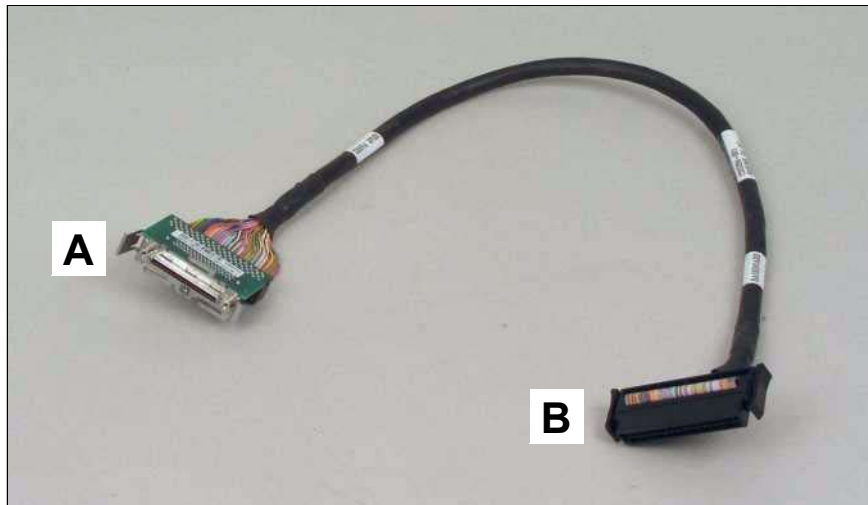

Figure 41: Cable for the external SCSI connection
- ▶ Connect the connector (B) of the connection cable (see figure 41 on page 58) to the “SCSI B” connector on the system board.